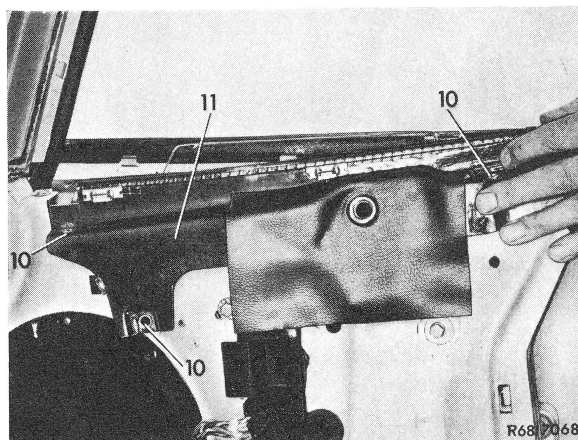

Fig. 2
- 3 Remove screw from behind cap (9).
- 4 Remove shaft cover (11), 5 screws (10) (Fig. 2).